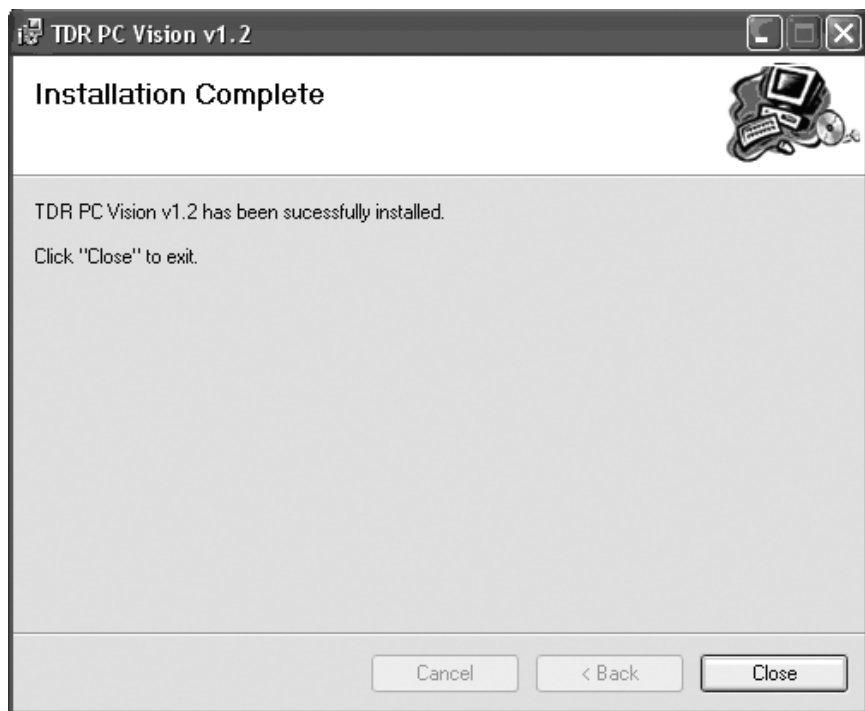

Figure 4-4
6. Follow any installation dialog or error messages that may be presented. As successful installation will be ended with the “Installation Complete” box shown in Figure 4-4. Press the “Close” key to exit the installation process.